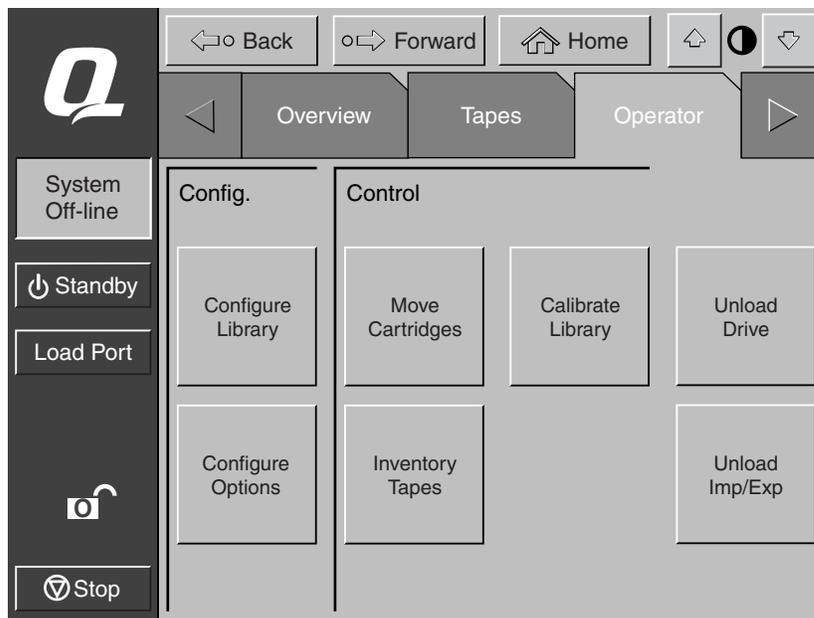

Figure 3-1. Configure Library menu
1. From the Operator tab, select Configure Library (see Figure 3-1).